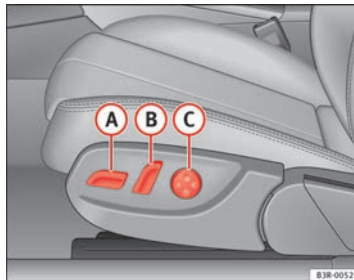
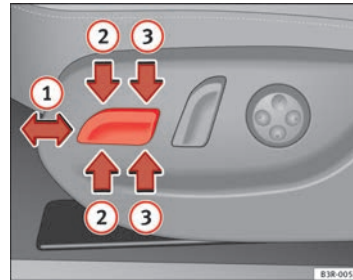

Fig. 104 Front seat: Adjuster controls
Fig. 105 Front seat: Seat adjustment switches
- Press switch **A** ⇒ Fig. 104 forwards or backwards **1** ⇒ Fig. 105 ⇒ **Δ**.